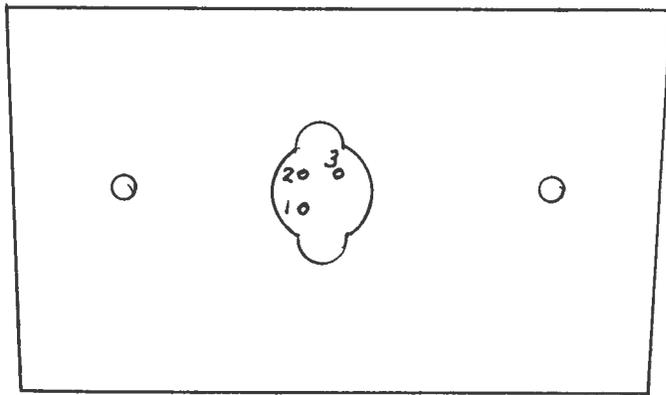

Fig. 2 DIODE SOCKET PIN CONNECTIONS
- 4) The connectorized detector diode may be removed by removing the 4 Phillips 2-56 screws which affix the diode assembly to the 2 x 5 cm aluminum mounting plate in the side of the amplifier. The diode may then be removed from the socket by gently pulling the diode package away from the amplifier chassis. The aluminum mounting plate may be removed by loosening the 8-32 nuts (4) then removing the 8-32 machine screws (2). Other PIN detector diodes may be inserted into the socket. The pin connections are as shown in Fig. 2.